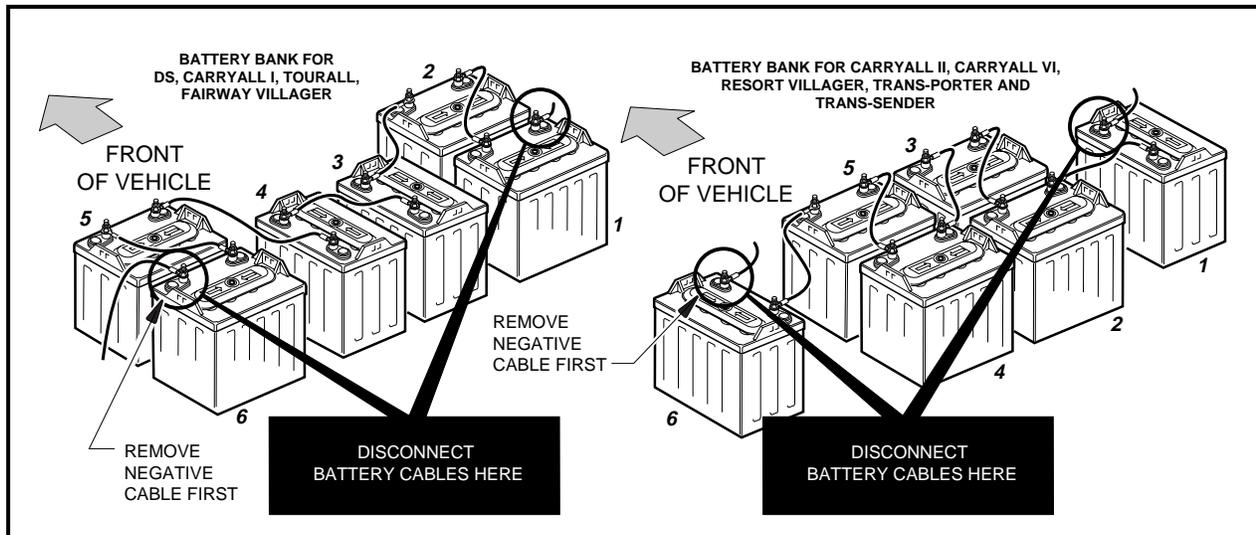

Figure 11-1 Battery Configuration
- TO AVOID UNINTENTIONALLY STARTING THE VEHICLE, DISCONNECT BATTERIES, NEGATIVE CABLE FIRST, AS SHOWN IN **FIGURE 11-1, PAGE 11-2**, AND THEN DISCHARGE THE CONTROLLER AS FOLLOWS: